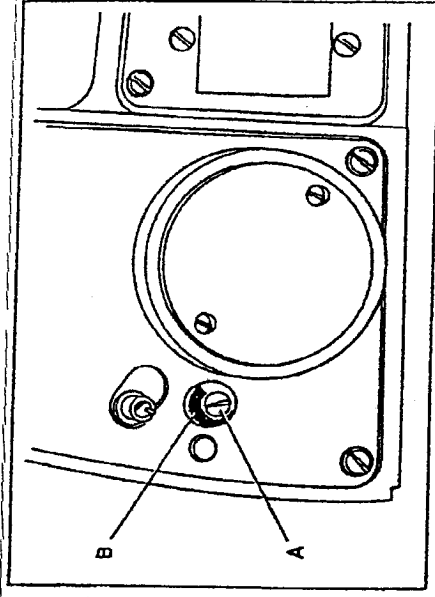

Fig.26
N.B. - After each assembly operation it is advisable to check the needle-hook timing (paras. 14,15). On the right cover, near the balance wheel, (fig.26) there is the bobbin winder with its stop knob, by means of which it is possible to wind up the bobbin. It is sufficient to loosen screw A and turn, in either direction, the eccentric knob B according to need.